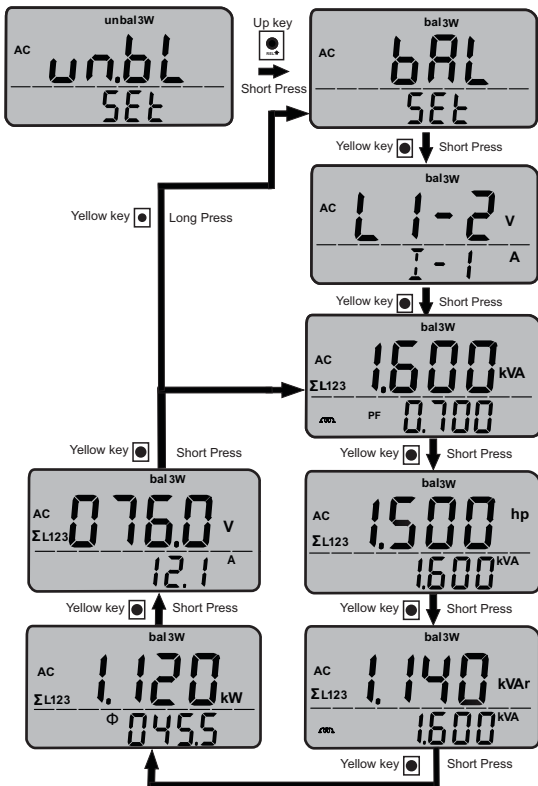

Fig 12.2.2 Power measurement 3-phase 3-wire balanced load
- 5) Measure data includes Active , Reactive, Apparent Power , Power Factor, Phase angle, horse power, voltage, Current. All these parameters are measured for system ($\Sigma L123$) only If we press function (Yellow) key then we can scroll through all above measured parameter one by one .Refer Fig 12.2.2